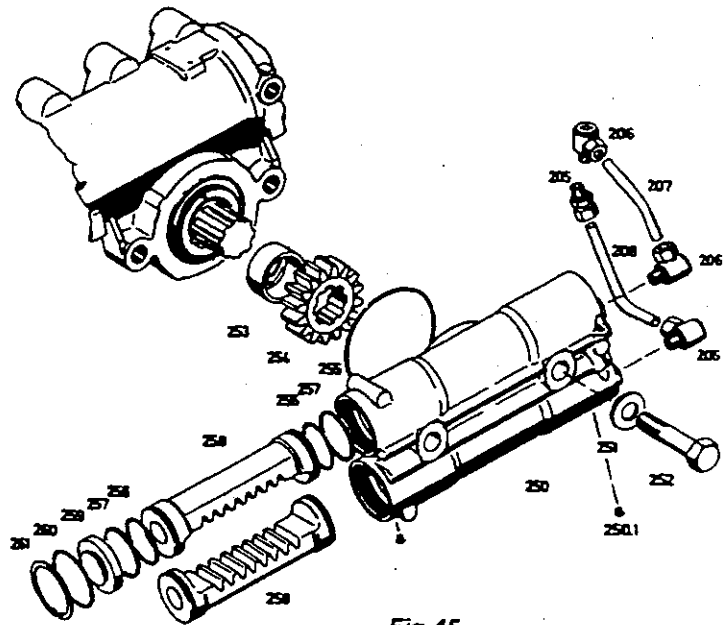

Fig.45
Slide bush (253) and gear (254) as far as possible onto sector shaft (80) (Fig.45).
Place O-ring (260) in radial groove of cylinder bore and press cylinder cover (259) in until the retaining rings (261) can be fitted (see Fig.45).